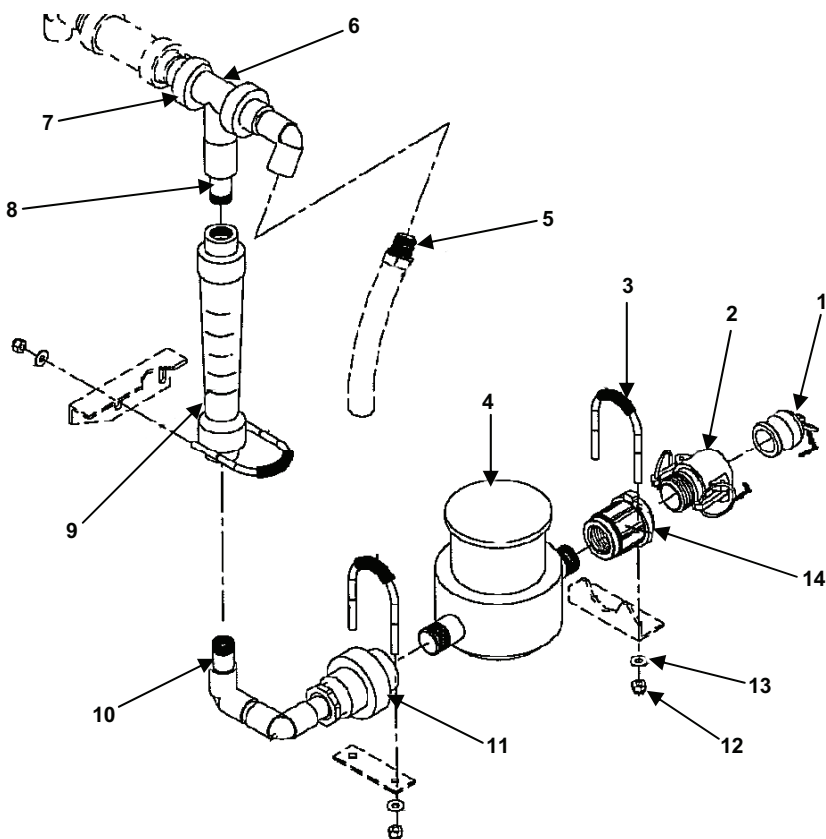

Figure 11. Product Inlet Piping.
1. Assemble the spool piece into one unit if taken apart. See Figure 11. Install 3-way ball valve (Figure 11, item 6), flow meter (Figure 11, item 9), totalizer (Figure 11, item 4), adapter (Figure 11, item 14).
3. Tighten union (Figure 11, item 7).
4. Install U-bolts (Figure 11, item 3), and secure with nuts (Figure 11, item 12) and washers (Figure 11, item 13).
5. Install female camlock (Figure 11, item 2) and dust plug (Figure 11, item 1) if removed.